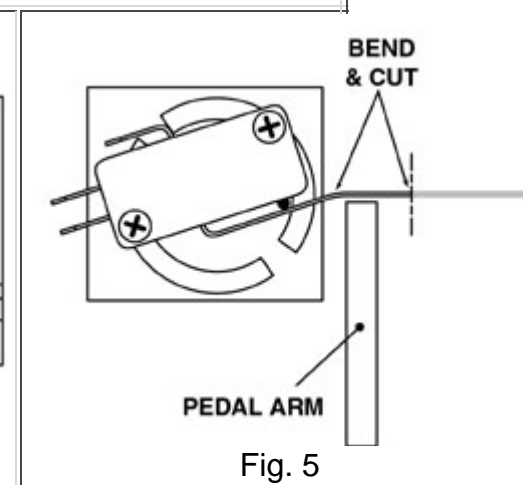

Fig. 5
6. Bend the paddle lever of the microswitch so that the switch is *open* (paddle lever depressed) when the throttle is in a relaxed position. Snip the excess length of the paddle lever. (Fig. 5)